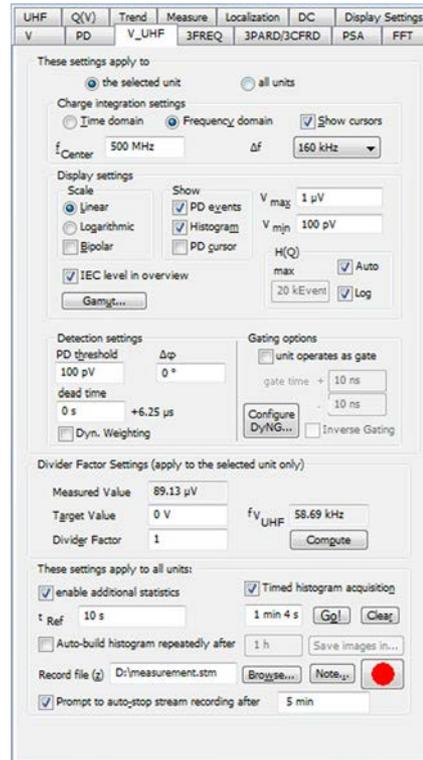

Figure 5-38 The  $V_{UHF}$  tab
**Note:** When a UHF 608 or UHF 620 down-converter is connected, the **Q** tab is renamed to  $V_{UHF}$ , and appears as shown in Figure 5-38.